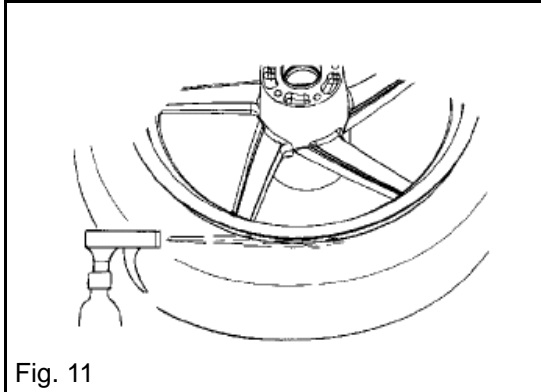

Fig. 11
1. Lubricate both tire beads with rubber lubricant. (Fig. 11).